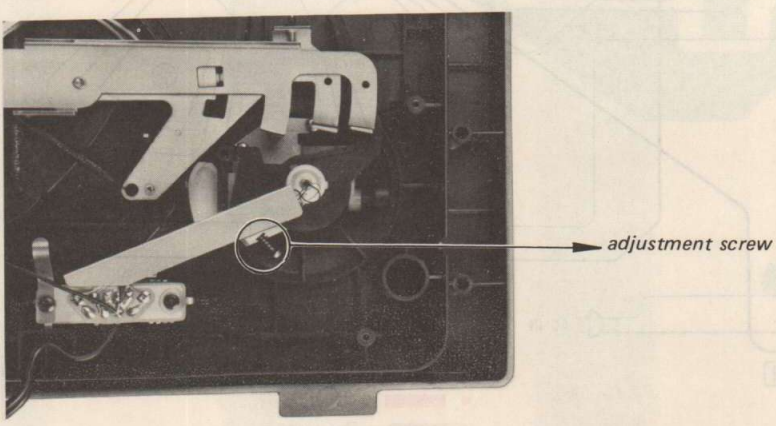

Fig. 6-5
4. Turn the adjustment screw in Fig. 6-5 so that the portion shown by \*1 of the center gear contacts the portion shown by \*2 of the clutch A as shown in Fig. 6-4B.